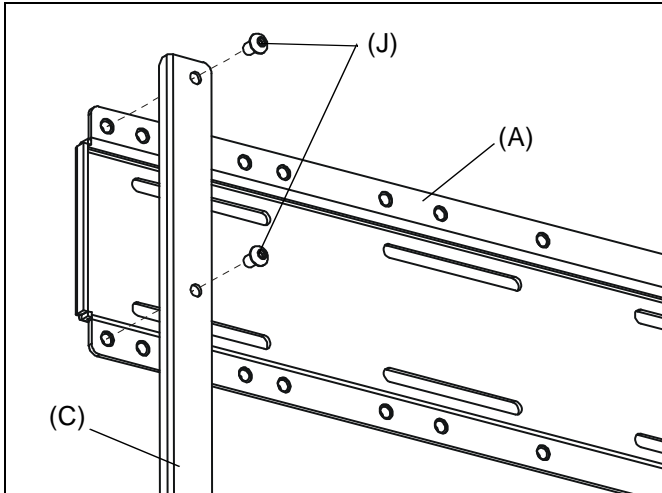

Figure 4
- Using 3/16" hex key (L), loosely install side support (C) to wall plate (A) with 5/16-18 x 1/2" button head cap screws (J) (See Figure 4). Ensure lip of support (C) covers edge of plate (A).
- Once all screws (J) are installed, tighten securely.